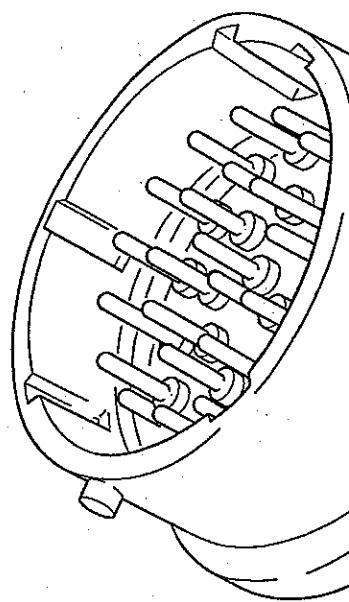
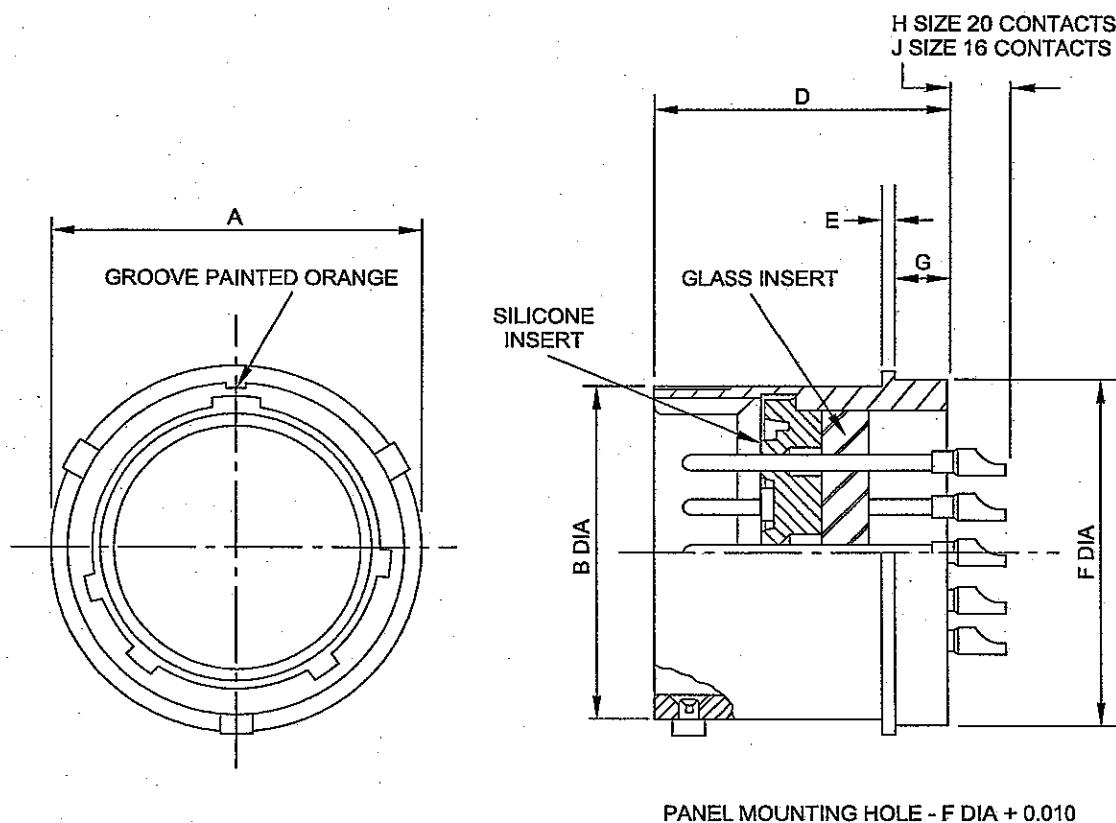

Fig 20 416H Solder mount rece
Fig 21 461H Solder mount receptacle, dimensions
15.1 The 461H solder mount receptacle (Fig 20) conforms to MS3113 specification. Details are given in Fig 21 and Table 12. The dimension of the panel mounting hole is diameter F, plus 0.010 in.